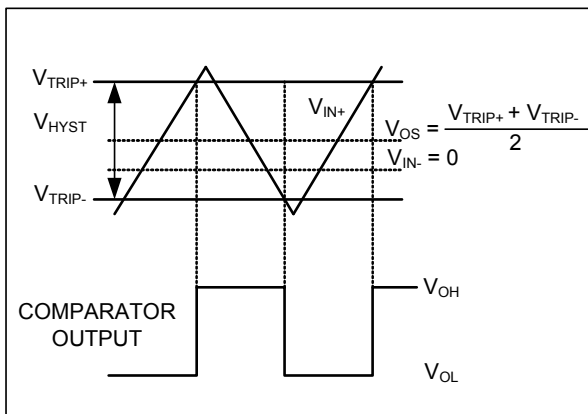

Figure 1. Input and Output Waveform, Non-inverting Input Varied
- VOS is defined as the center of the input-referred hysteresis zone. See Figure 1.
- The input-referred trip points are the extremities of the differential input voltage required to make the comparator output change state. The difference between the upper and lower trip points is equal to the width of the input-referred hysteresis zone. See Figure 1.
The hysteresis in a comparator creates two trip points: one for the rising input voltage and one for the falling input voltage (Figure 1). The difference between the trip points is the hysteresis. The average of the trip points is the offset voltage. When the comparator's input voltages are equal, the hysteresis effectively causes one comparator input voltage to move quickly past the other, thus taking the input out of the region where oscillation occurs. Standard comparators require hysteresis to be added with external resistors. The SGM8746's fixed internal hysteresis eliminates these resistors. To increase hysteresis and noise margin even more, add positive feedback with two resistors as a voltage divider from the output to the non-inverting input.
Figure 1 illustrates the case where IN- is fixed and IN+ is varied. If the inputs were reversed, the figure would look the same, except the output would be inverted.